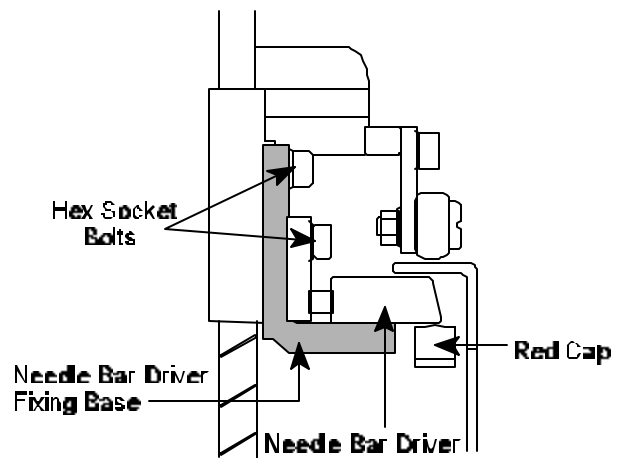

Figure 4
- Using 3 mm Allen Wrench, **loosen** top and bottom hex socket bolts on Needle Bar Driver Fixing Base. See *Figure 4*.